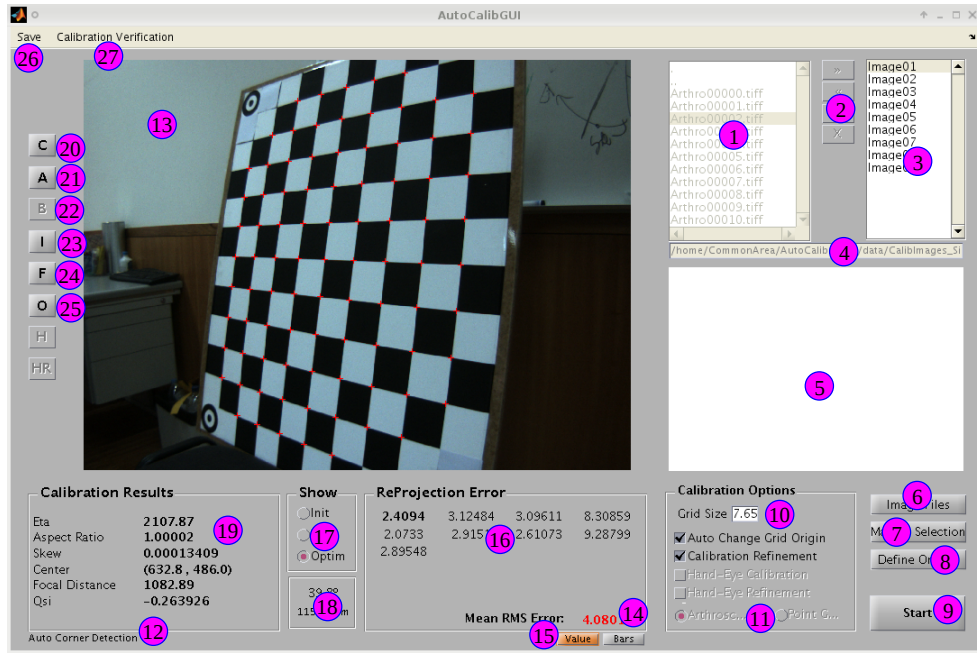

Figure 3: Main EasyCamCalib window.
To start EasyCamCalib, “cd” to the downloaded folder and call EasyCamCalib from the matlab prompt. The GUI of figure 3 should appear. Here is a brief overview of all the components:
Item 27 of figure 3 allows you to *Correct Radial Distortion* using a simple GUI. The distortion model used is represented in equation 1.
Another method to verify the calibration parameters (this time the extrinsics also) is the Homography test (figure 3, item 27). In this test we will compute the homography between two images using the method proposed in [3]. This method uses information from the calibration (extrinsics) parameters to compute the homographic relation between two calibration planes. Because of this, only calibration images can be used for the homography test.